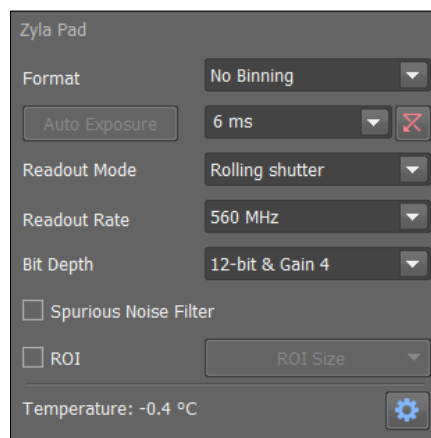

Figure 11: Example camera settings used for this setup
11. Configure camera settings (for example, see Figure 11).